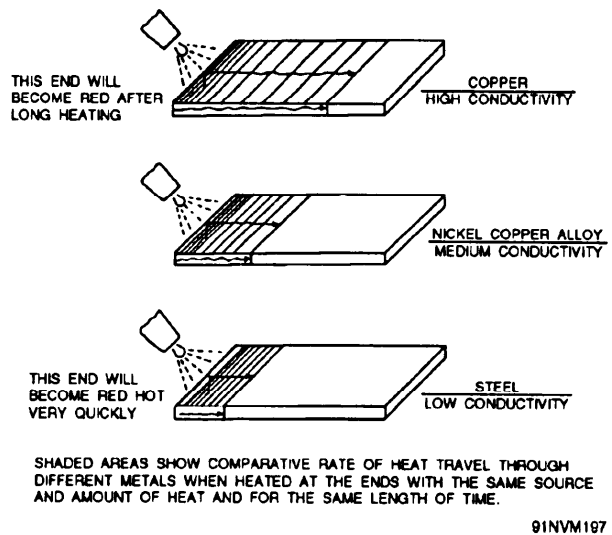

Figure 9-7.—Relative rate of heat flow through copper, nickel-copper alloy, and steel.
5. Heat travels faster through some metals than through others (fig. 9-7). All metals and alloys have high conductivity as compared with most other substances, but there is a good deal of variation in the speed with which various metals and alloys will conduct heat. Copper, for example, is a very rapid conductor of heat. When two pieces of different metals are to be joined by silver brazing, the difference in heat conductivity of the two metals causes some problems in heating. For example, if you are trying to join a steel part and a copper part by silver brazing, you will find that the steel part reaches the joining temperature more rapidly and has a tendency to overheat because the heat